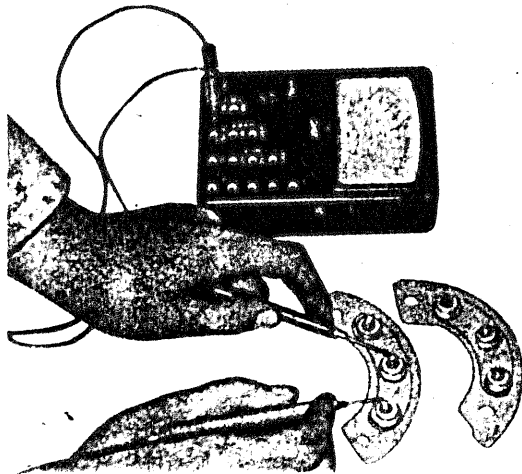

Fig. 5-11
1. Make the checking wire as shown in Fig. 5-11.